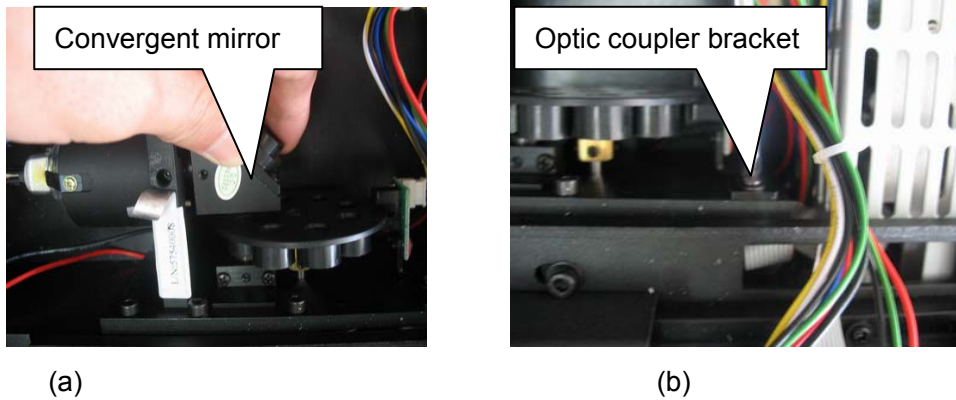

Figure 3-21
- 3、 Take out the convergent mirror assembly, as shown in Figure 3-21 (a)
- 4、 Loosen the two M3 cross screws which fix the optical coupler bracket, please not that you don't need to take them off, as shown in figure 3-21 (b).